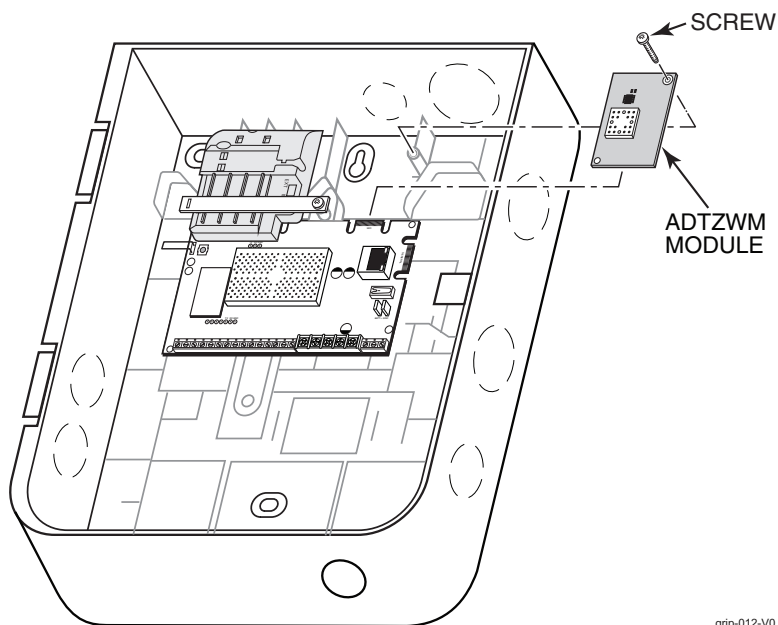

Figure 4. Installing the ADTZWM Module
2. Install the ADTZWM (ZWAVE) on the edge connector on the PCB (refer to Figure 4). Ensure the receptacle is securely seated on the edge connector.